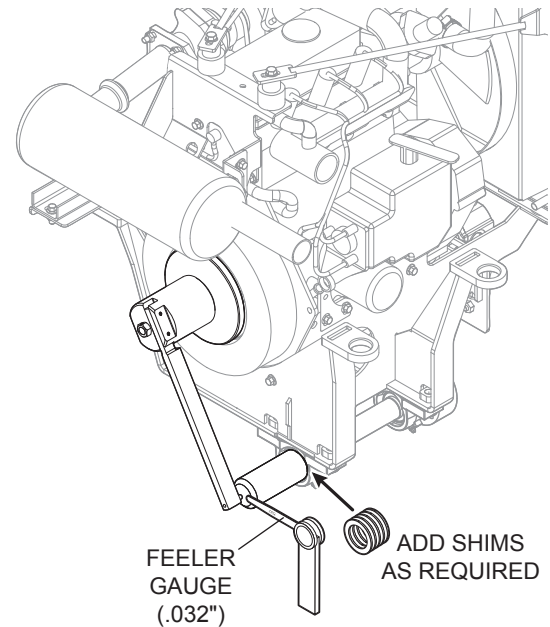

Figure 14. Shimming
5. Reinstall gauge sleeve onto cross shaft. Insert 0.032" feeler gauge (Figure 14) between gauge pin and gauge sleeve.